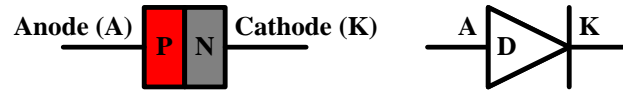

Figure 1.2 Drawing Showing How a Solid-State Diode Is Made and Its Symbol
Of course, the actual doing of this process is not that simple, but this paper is not concerned about how the device is made or even the theory of how it operates. I will give my version of how it operates, I call it the “Variable Linear Leaky Junction Theory”. But first, notice that the device is made of three layers called the Emitter (E), Base (B), and Collector (C). There are two PN junctions that look like two diodes. Figure 1.2 shows how a Solid-State semi-conductor diode is made. It will only pass current when the Anode is Positive with respect to the Cathode.